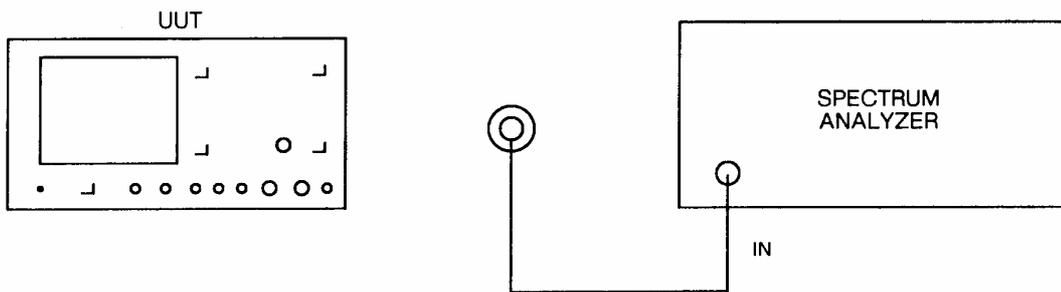

Fig. 5-1-24 Test equipment connections for RF generator RF leakage performance checks
- (1) Connect the equipment as shown in Fig. 5-1-24, with the 50 Ω load connected to the BNC output socket.